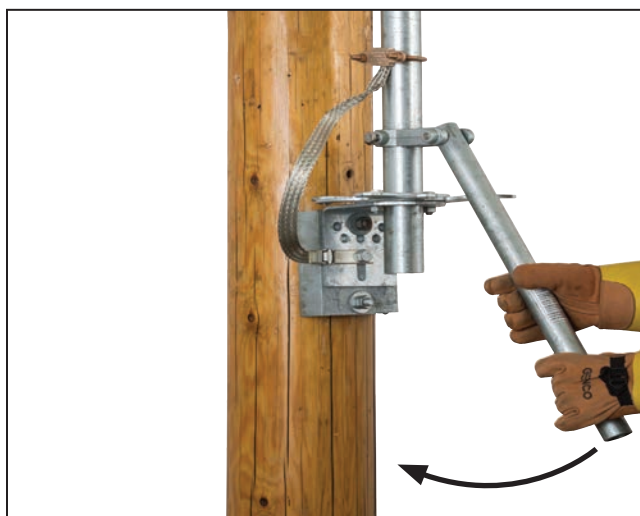

Figure 54. Swing the operating handle rapidly.
- (b) Swing the handle *rapidly* to the fully **Open** or fully **Closed** position. See Figure 54.